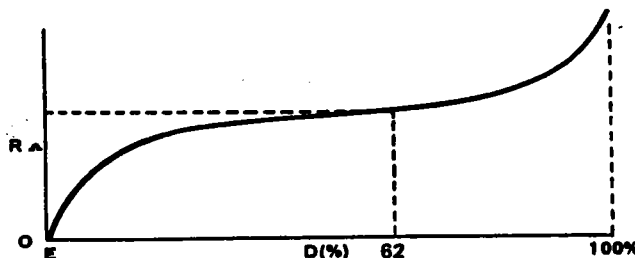

Figure 3-4. Typical Curve for Earth Electrode Resistance Versus Distance from Electrode to C₂ Rod.
d. **LARGE EARTH ELECTRODE SYSTEMS OR LARGE AREA GROUND GRIDS.** In general, the three-point or fall-of-potential method is also applicable to large area earth electrodes. However, the distance to the C2 current rod should be about five times the largest dimension or diagonal of the earth electrode or ground grid area. The P2 potential rod should then be positioned at 62% of the distance from the center of the grid to the C2 rod. See Figure 3-4.
To eliminate this possible source of error, a guard terminal has been provided on the hand-crank instrument which by-passes leakage currents to earth through a guard rod. (See Figure 3-4.)